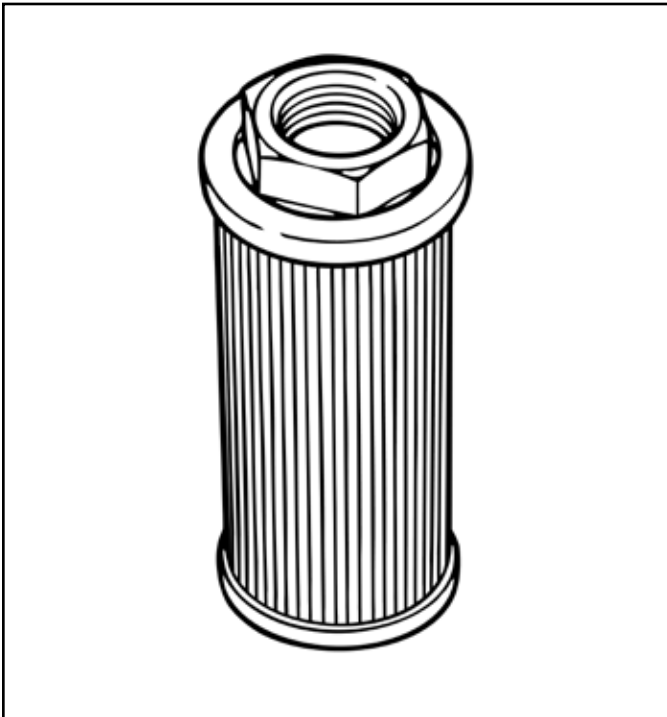

Figure 4-3. Filter for Hydraulic Fluid
- **filter:** A filter removes small particles from the hydraulic fluid (see Fig. 4-3). There is a filter on the return line to the reservoir. Also, some circuits have inline filters, particularly where flow is limited. For example, a filter is typically installed on the supply line to the injector head main control valve.